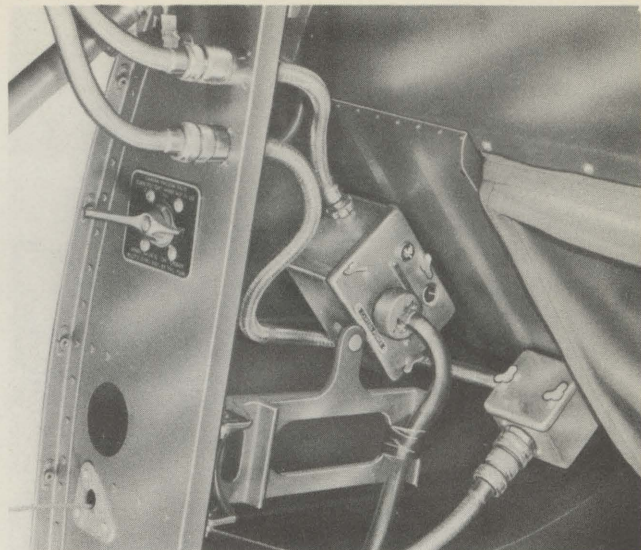

FIG. 19—CONTROL VALVE, INTERVALOMETER, POWER JUNCTION BOX
c. INTERVALOMETER (See figure 19.)—The type B-2 intervalometer which is an instrument for automatically operating the camera at any predetermined interval and which is electrically operated, is installed by mounting on a bracket secured to the right side of the rear fuselage structure aft of the right forward bulkhead.